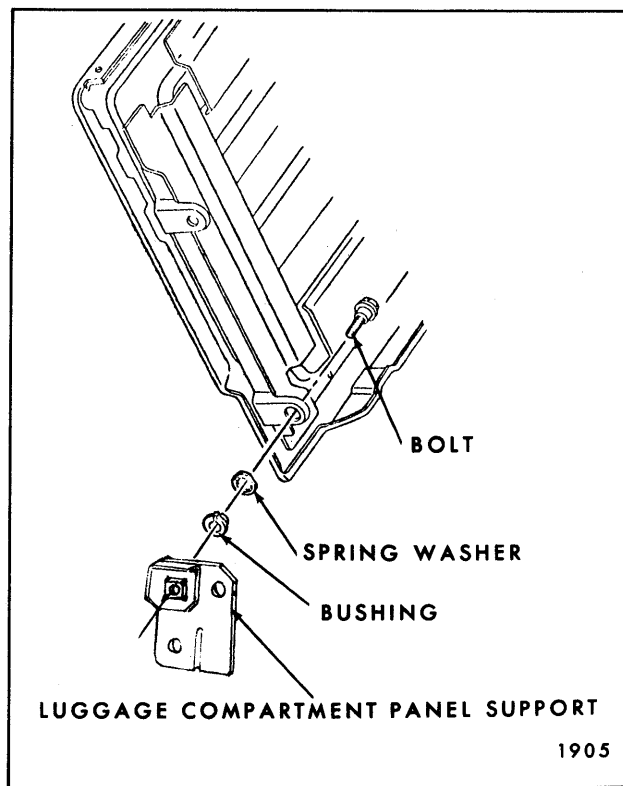

Fig. 10-51—Luggage Compartment Panel Attachment to Body
3. Remove bolt (Fig. 10-51) at both sides of front panel securing front and rear panel assemblies to supports; then remove assembly from body.
4. To install, reverse removal procedure. Make sure bushing and spring washer are properly installed (Fig. 10-51).